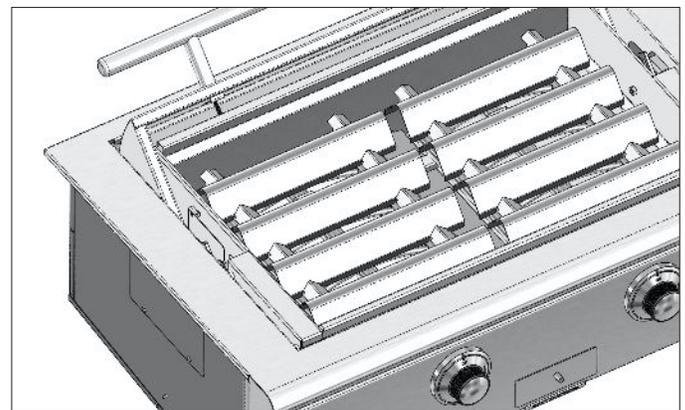

Fig. 4. Burner crossover bars covered by radiants.
2. Position the radiants in the radiant rail slots. **See fig. 3.** There should be one radiant over each crossover porting bar. **See fig. 4.**